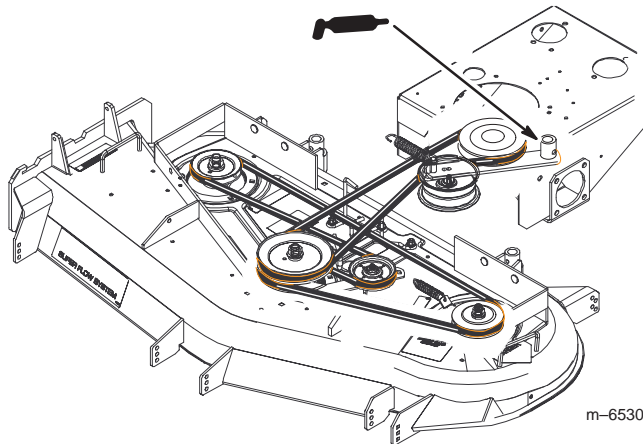

Figure 37
2. Grease the idler arm pivot (Fig. 37).